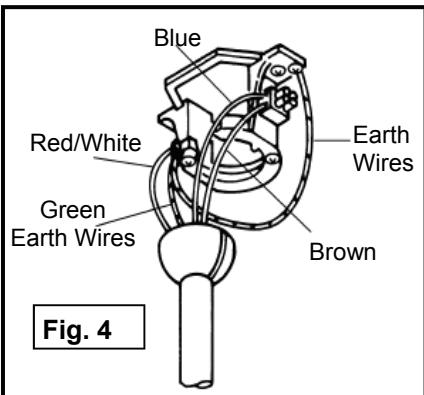

Fig. 4
STEP 4 (Fig 4 & 5)
- Connect wires from the fan to wires in the ceiling via the terminal block on the hanger bracket (refer to figure 4 and 5).